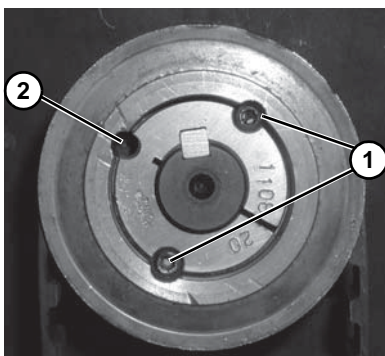

Figure 26
6. Loosen taper-lock screws (Figure 26, item 1) and remove drive pulley: Insert one (1) of taper lock screws in remaining hole (Figure 26, item 2). Tighten screw until pulley is loose.